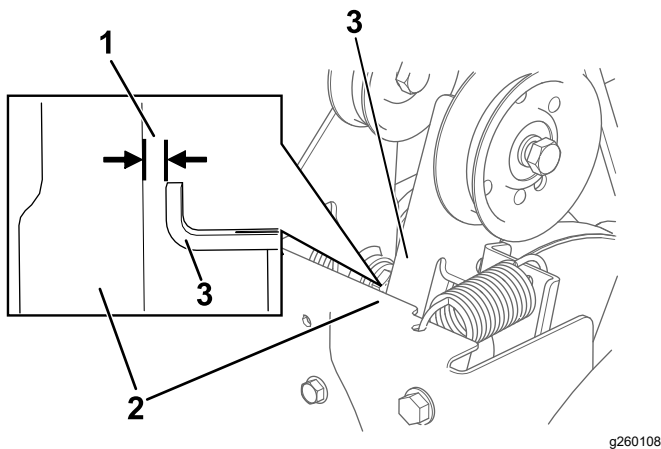

Figure 35
3. With the auger/impeller lever disengaged, ensure that the gap between the auger clutch arm and the frame of the machine is 1.5 mm (1/16 inch) as shown in Figure 35.